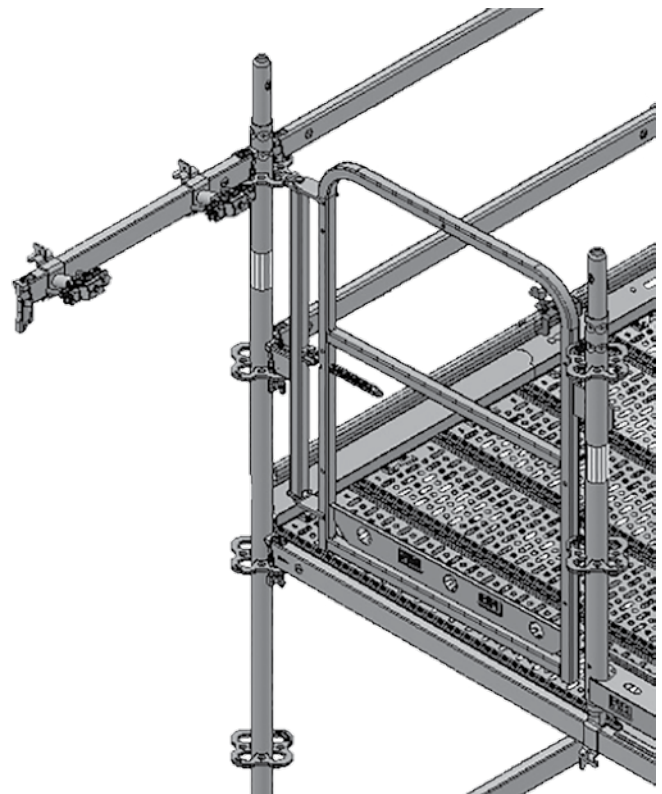

Fig. A2.04
2. Position Ledger Connectors UAM-S on the Ledger, insert wedges. Slide both Ledger Connectors UAM-S on the rung spacing of the ladder and secure the wedges. (Fig. A2.04)